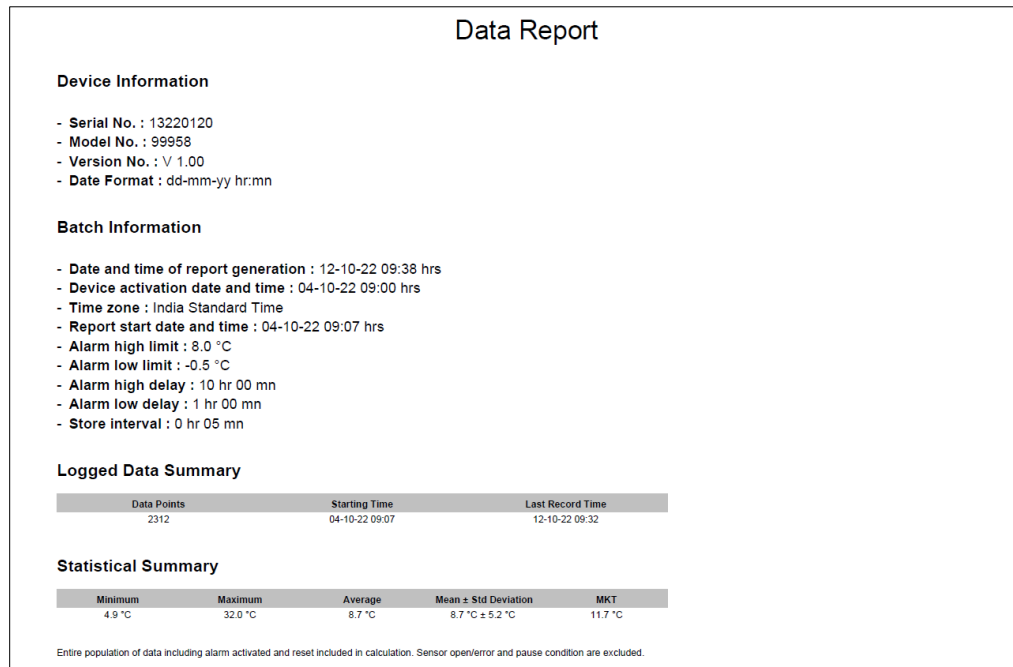
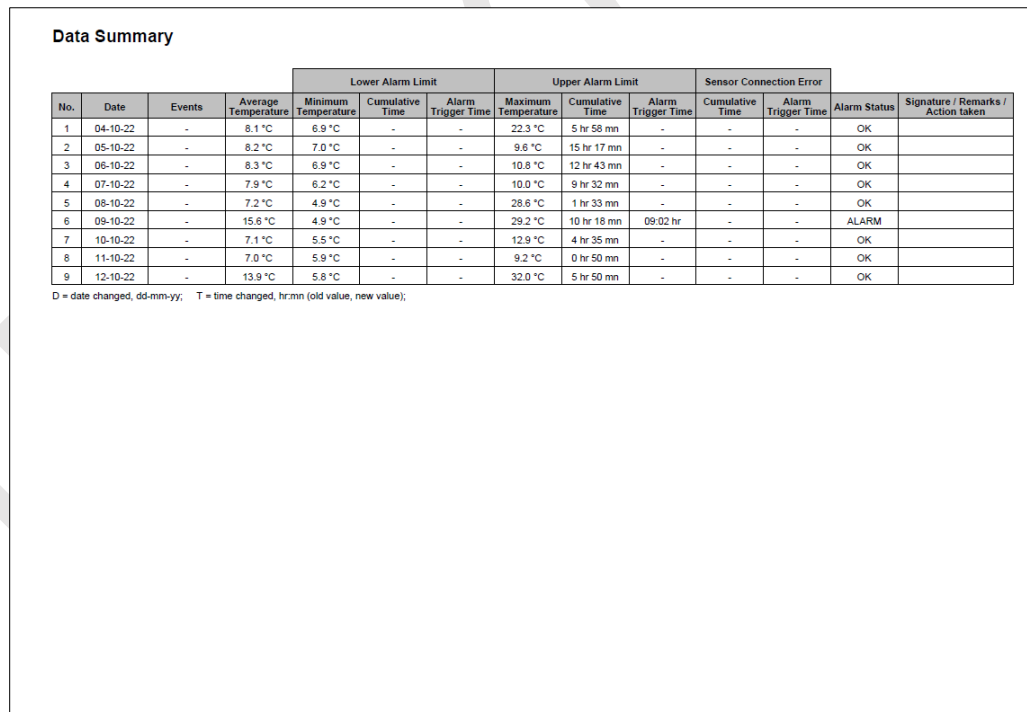
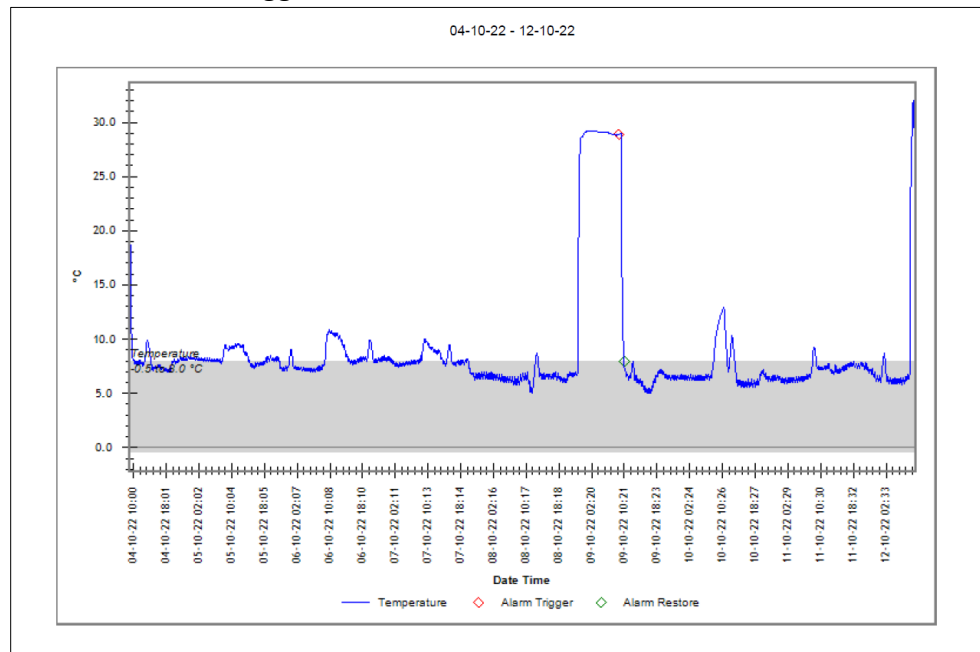

Figure 22 Sample PDF report part -1
Figure 23 Sample PDF report part -2
Figure 24 Sample PDF report part -3
- Sample PDF file generated from LM^{Pro} FZT Data logger for 3 days recorded data is shown in figure 22, figure 23 and figure 24. This report consists of following data:
- The gray band in graph shows area inside alarm low and high limit. Indications for alarm trigger, alarm restore, sensor connection error are specified in graph legends as shown in figure 24.